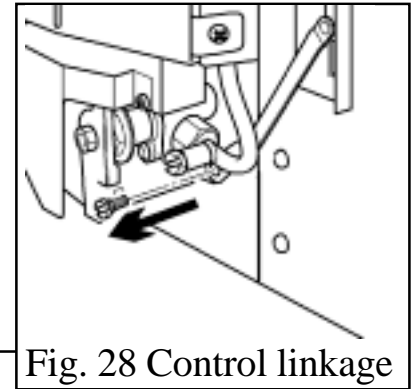

Fig. 28 Control linkage
10.4.3 Disconnect the control linkage by removing the knurled screw which connects the control linking bar to the control pivot unit (see figure 28).